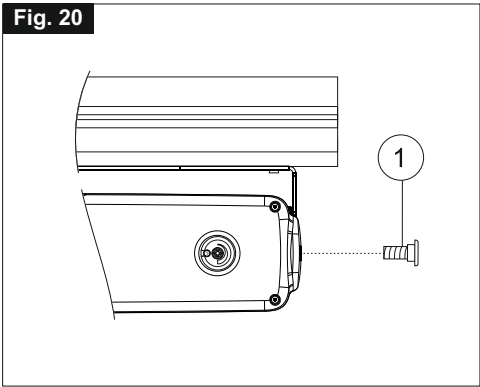

Fig. 21
- 2) **Fig. 21-** With a pencil draw the centre line "Y" of the window frame;